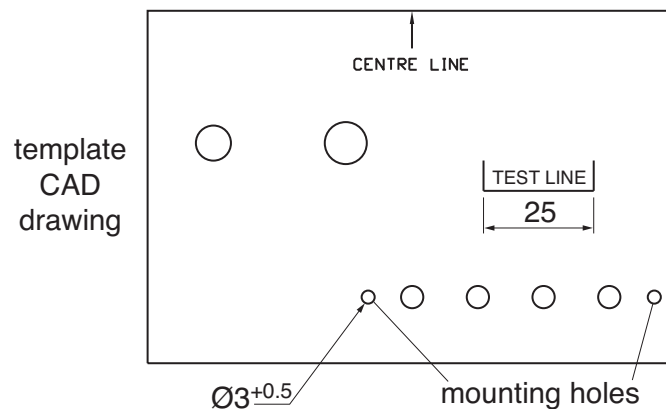

Fig. 1
- (b) Holes to match those in a PCB are included in the CAD drawing of a template shown in Fig. 1.